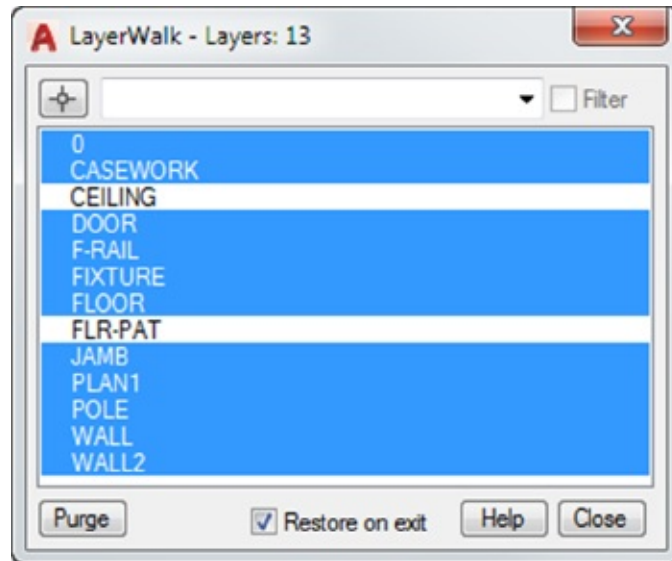

FIGURE 14.18 The LayerWalk dialog box
2. The LayerWalk dialog box appears (see Figure 14.18). You can click and drag the bottom edge of the dialog box to expand the list so that you can see all of the layers in the drawing.